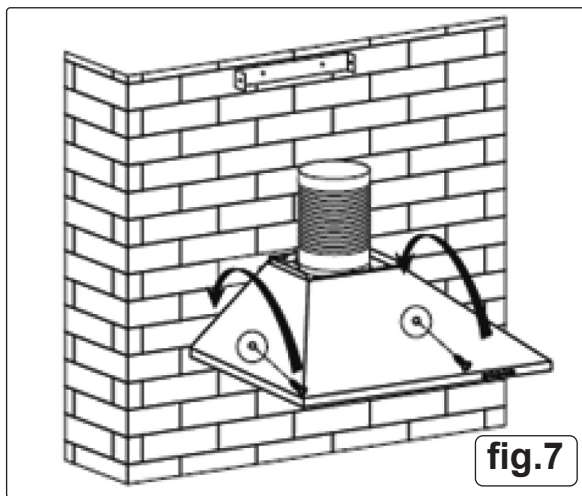

fig.7
- Hang the appliance onto the hook and fix the appliance by the 2pcs safety screws (4mm x 30mm). See fig.7